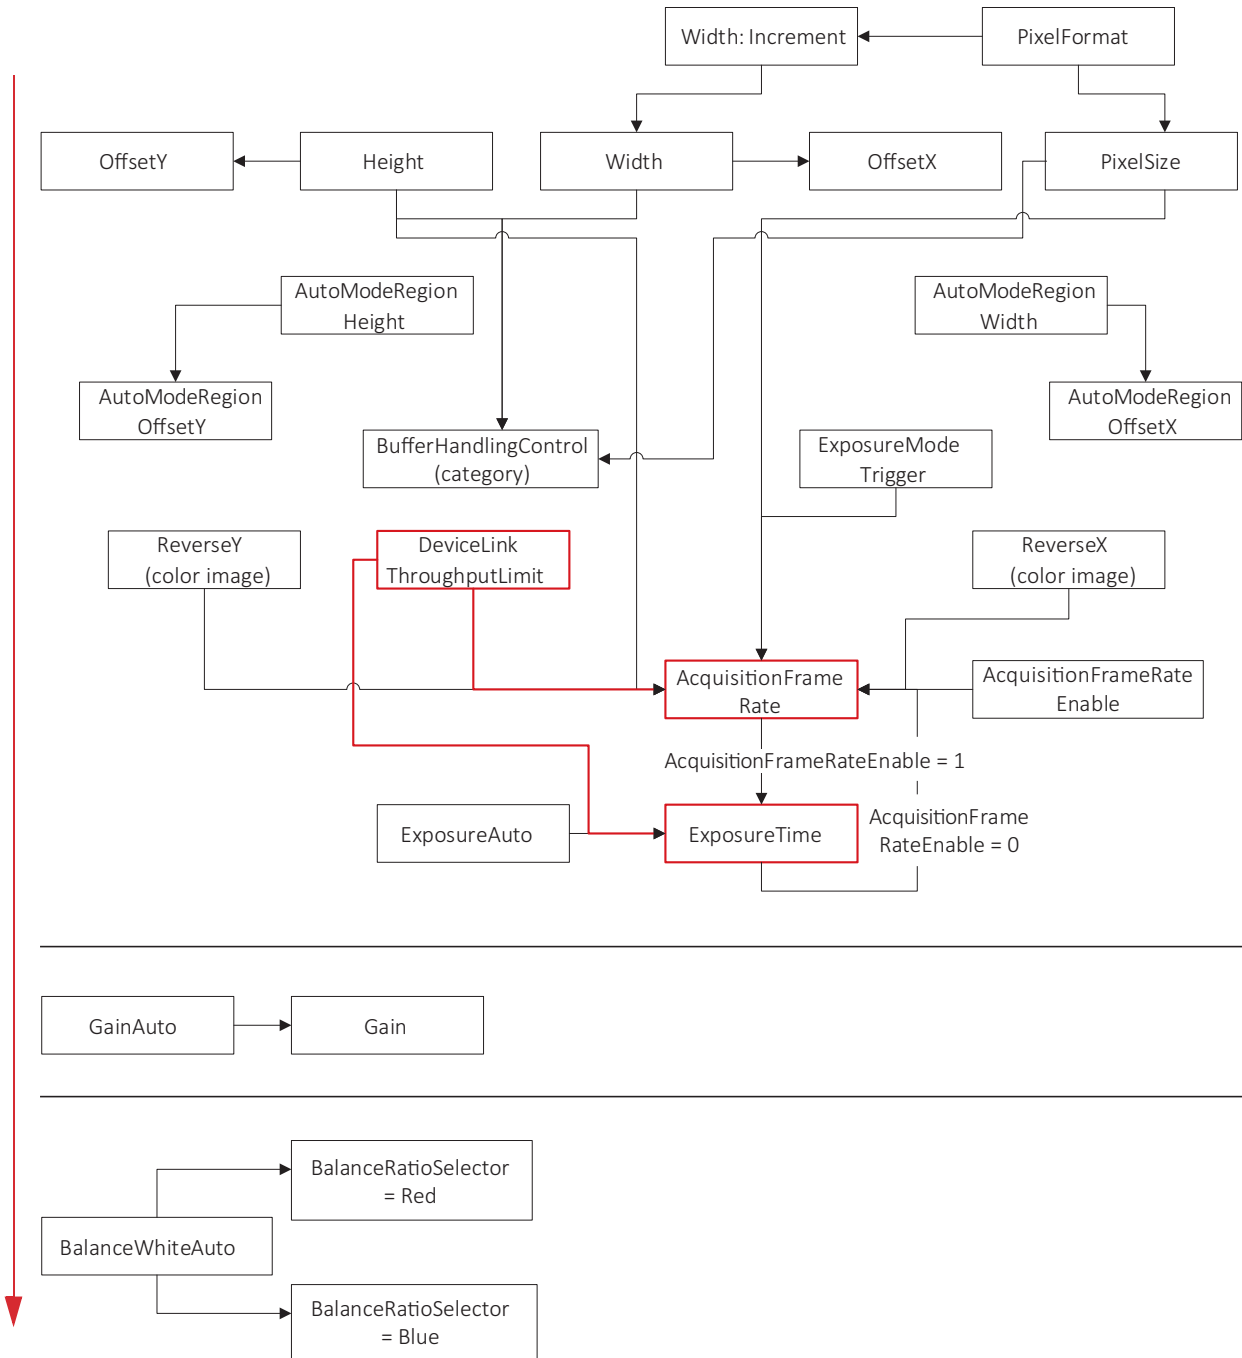

Figure 71: Interdependencies between features
The conversion between time and clock cycles affects control values. Features for pixel format, bandwidth, ROI, exposure time, and triggering are related to each other. Changing values for one feature can change values for another feature. For example, frame rates can be reduced when `PixelFormat` is changed subsequently. Figure 71 shows the interdependencies.
- To avoid readjustments, apply settings in the order shown in Figure 71.